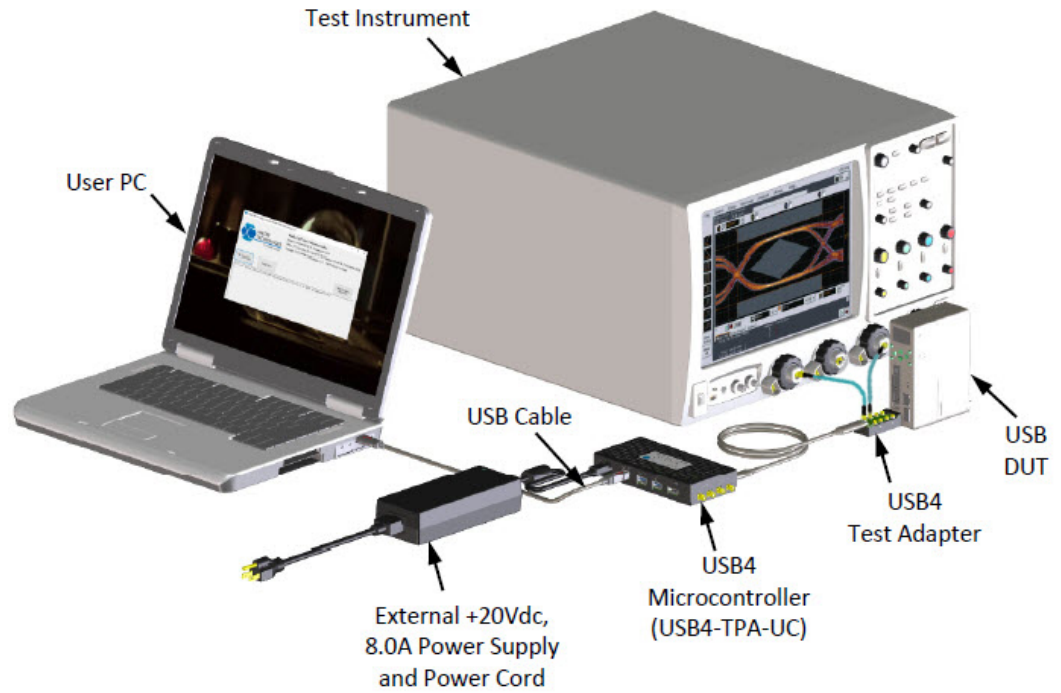

Figure 130 Transmitter TP2/TP3 Test Setup
- 1 For the physical connection between the DUT & the Oscilloscope, see Figure 130 and for configuring the USB4 Test Application, see "Setting up the USB4 Test Application" on page 48.
- 1 Connect the DUT to the Oscilloscope as shown in the Figure 130.